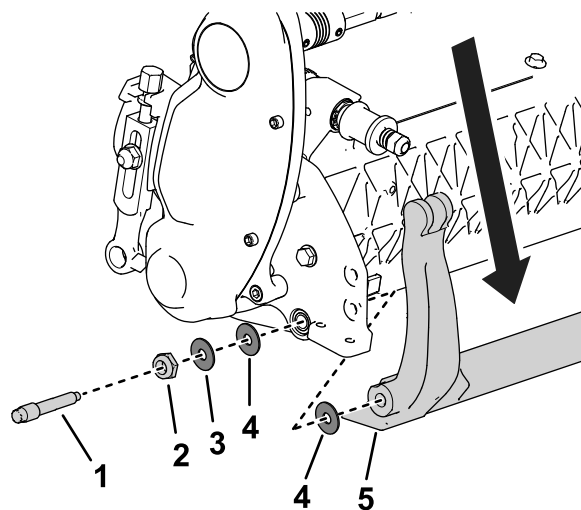

Figure 20
3. On each side of the machine, loosen the locknut shown in Figure 20.
4. Remove each bedbar bolt, allowing the bedbar to be pulled downward and removed from the cutting unit (Figure 20).
Account for the 2 steel washers and 1 nylon washer on each end of the bedbar (Figure 20).
3. Position a nylon washer on each side of the side-plate boss. Place a steel washer outside each of the nylon washers (Figure 20).